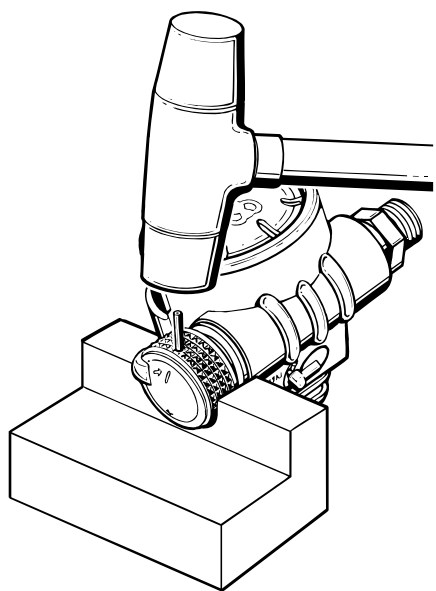

Fig. 23 - Adjustment Knob Pin Installation
35. Place the second stage on a padded surface with the purge cover facing up, so that it rests on the exhaust cover and outlet boss. Lay a small, 1" thick block of wood next to the second stage, beneath the knob. Insert the pin(33) into the hole of the knob, and gently tap it completely through with a small mallet, until it is seated evenly on both sides (see Fig. 23).
36. Install the mouthpiece(17) onto the box bottom, and lightly fasten a mouthpiece clamp(18) onto the groove of the mouthpiece. Turn the clamp so that the locking tab is facing toward the inlet side of the box bottom, and pull the end sufficiently snug. Snip the extra length with a small pair of scissors or wire cutters.
37. Direct low pressure air (50 psi) through the LP hose(8) to flush out any debris that may be inside. Install O-rings (7&9) onto the hose, and set it aside.